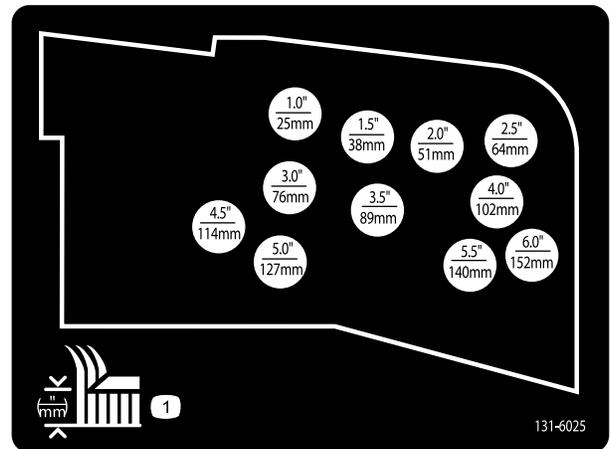

**Figure 20**
- 9. Remove the hairpin cotter and clevis pin securing the height-of-cut chains to the rear of the cutting unit (Figure 20).